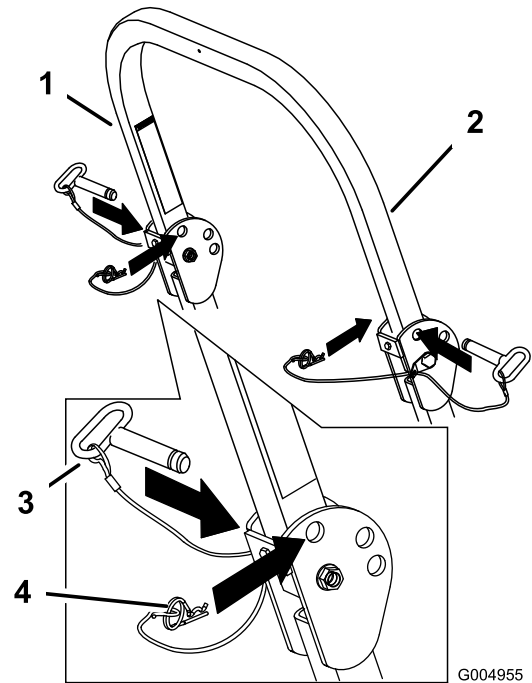

Figure 8
1. Remove the hairpin cotter pins and remove the two pins (Figure 8).
3. Install the two pins and secure them with the hairpin cotter pins (Figure 8).
4. To raise the roll bar, remove the hairpin cotter pins and remove the two pins (Figure 8).
5. Raise the roll bar to the upright position and install the two pins and secure them with the hairpin cotter pins (Figure 8).